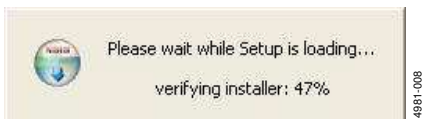

Figure 9. Beginning of **SDP-H1** Driver Installation
- Click **Next** to complete the installation and to launch the **SDP-H1** driver installation as shown in Figure 9.